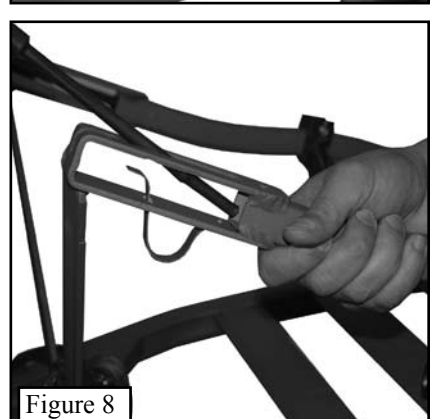

Figure 8
Step 2. Take one end of the cable around the tree and begin to slide it down into the tubing as shown in **Figure 8**. Once the cable slides easily into the tubing (it helps to bend the cable upward while pushing down on it), you are ready to place it in its final position.